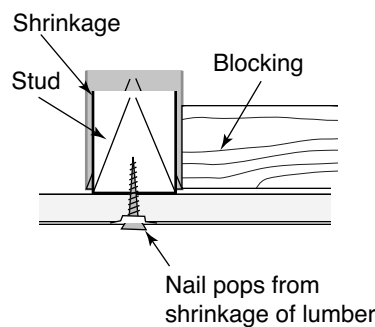

FIGURE 59
- ◆ Avoid protrusions from blocking (see Figure 59).